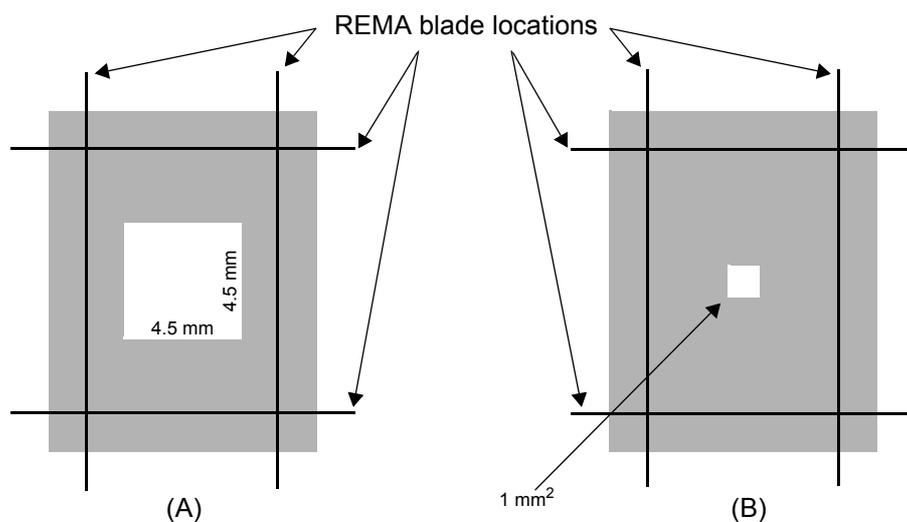

Figure 3.11 Example of a normal and extended image border (scanner situation)
The minimum REMA-window size for all applicable configurations is given in Figure 3.11. When smaller images must be printed, the chromium border around these images must be made wider. The width of the chromium border must then extend over the minimum window size. An example of this extended image border is shown in Figure 3.11, where (A) is an example of a normal image border for a scanner and (B) is an example of an extended image border.